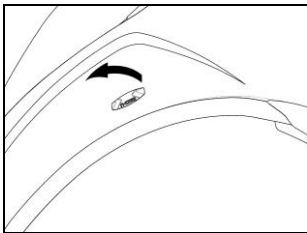

Fig. 24
- Remove the small N-Com cap positioned on the left side of the helmet. To make the operation easier, we recommend pushing the cap from inside the helmet (Fig. 24).